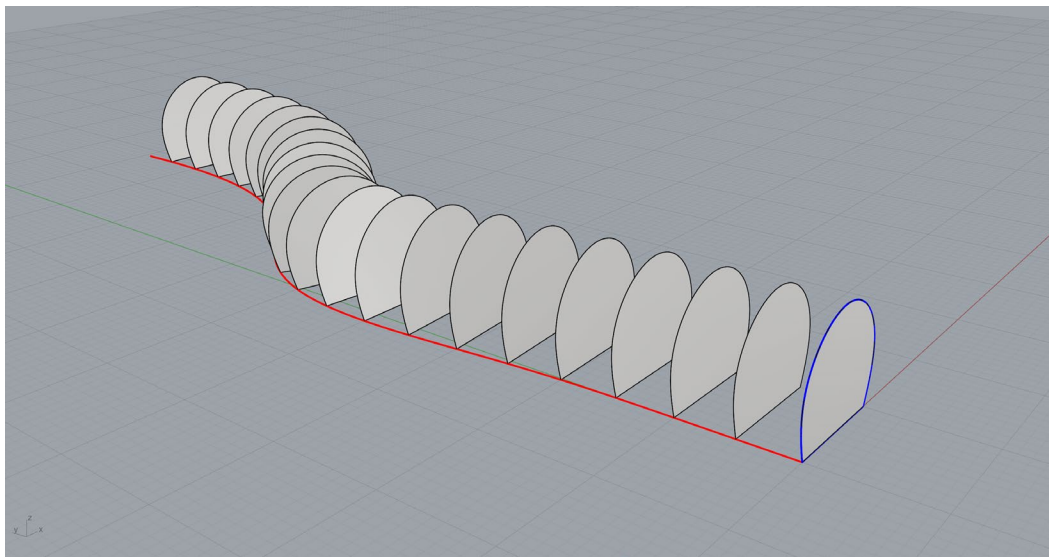

Figure 54: Creation of excavation stages by duplicating initial cross-section surface. Tunnel surface is not shown.
11. Select the initial cross-section that was created in the previous step and use run the command **_ArrayCrv** to duplicate it along the direction path (red curve) with a spacing of roughly 5 m. Set *Distance between items* = 5 and *Orientation* = *Freeform*. This will create excavation stages that can be gradually removed during numerical simulation (Figure 54).